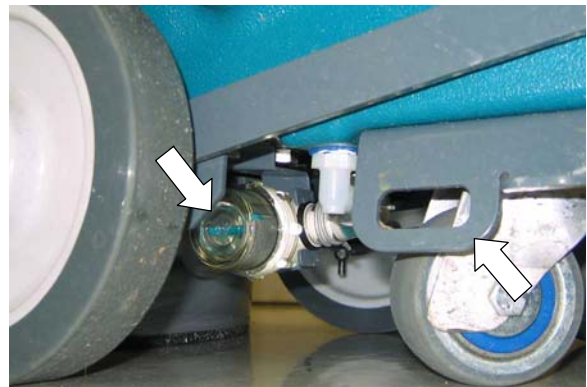

FIG. 51
5. Secure machine with tie-down straps. Machine is equipped with two tie-down brackets (Figure 51).
2. Empty the solution tank filter located under the machine (Figure 51).